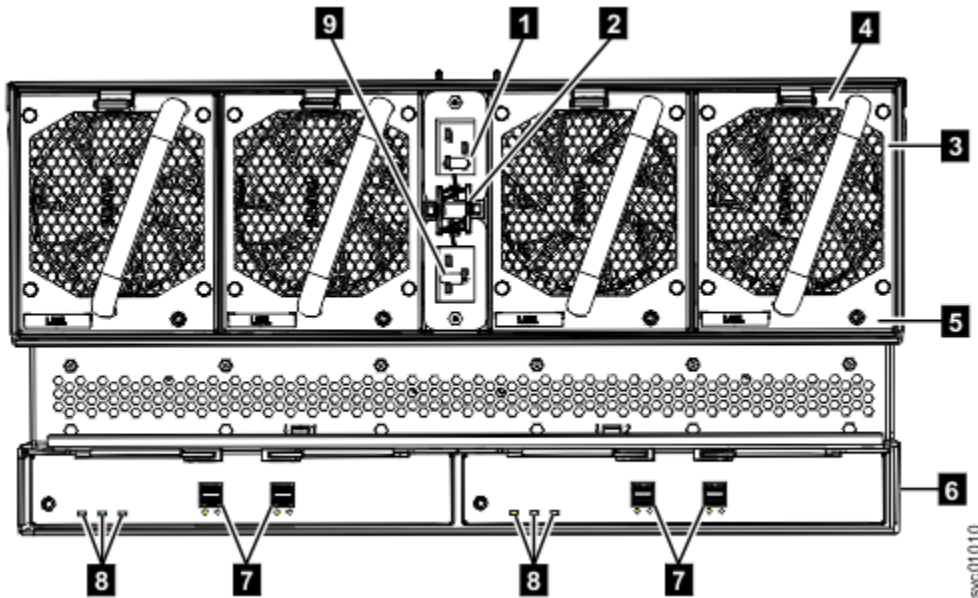
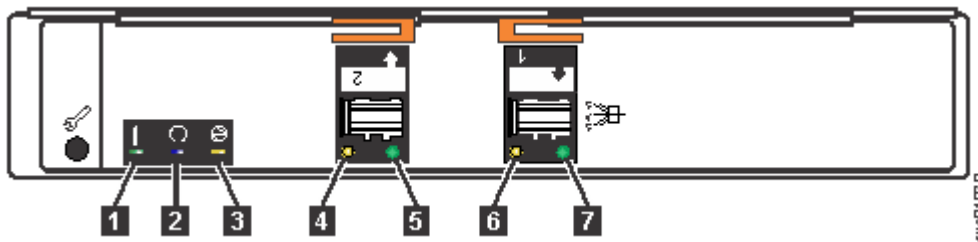

Figure 123. LEDs on the back of the expansion enclosure
Figure 124. LEDs on the back of the expansion canister
Table 21 on page 113 explains the function and status that is indicated by each of the LEDs. The power cords for each PSU are accessible from the rear of the expansion enclosure (1), as shown in Figure 123 on page 116.
Figure 123 on page 116 shows the rear view of a 2077-92F expansion enclosure. LEDs on the rear of the enclosure provide information about each fan module, each expansion canister, and SAS links.
The expansion enclosure has four fans. Each fan has one LED; for example, Figure 123 on page 116 shows the location of the LED (5) for fan number four. When a fan is operating normally, the LED is not lit. If a fault is detected, the amber LED is lit.
As Figure 123 on page 116 also shows, the expansion enclosure contains two expansion canisters. Each expansion canister contains its own set of LEDs, as shown in Figure 124 on page 116. The LEDs provide status information about the expansion canister itself and the SAS connections.